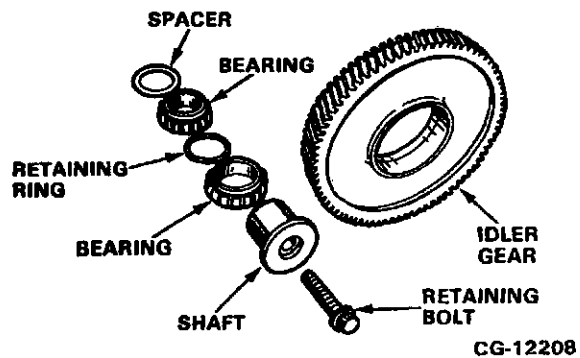

Figure 8.16. Inspect Idler Gear Components
**NOTE:** The bearings are serviced as an assembly consisting of two tapered roller bearings held together by a retaining ring. Refer to Figure 8.16.